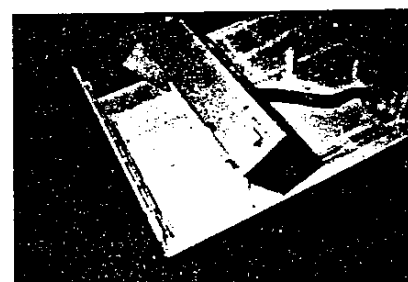

Fig. 2-15. Power Supply Removal
2.7.1 To remove the power supply, move the assembly toward the left side of the case to disengage the bottom case feet. Lift the power supply from the bottom case. See Fig. 2-15.